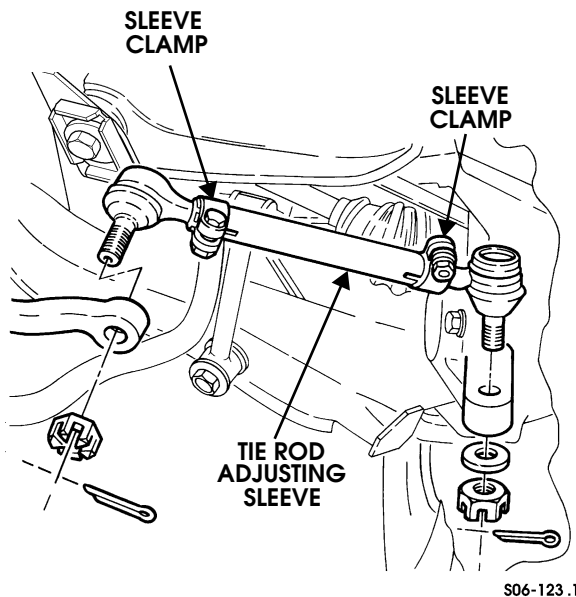

Figure 6-44: Front Wheel Toe Adjustment Points
2. Loosen adjusting sleeve clamps on both tie rods (Figure 6-44).